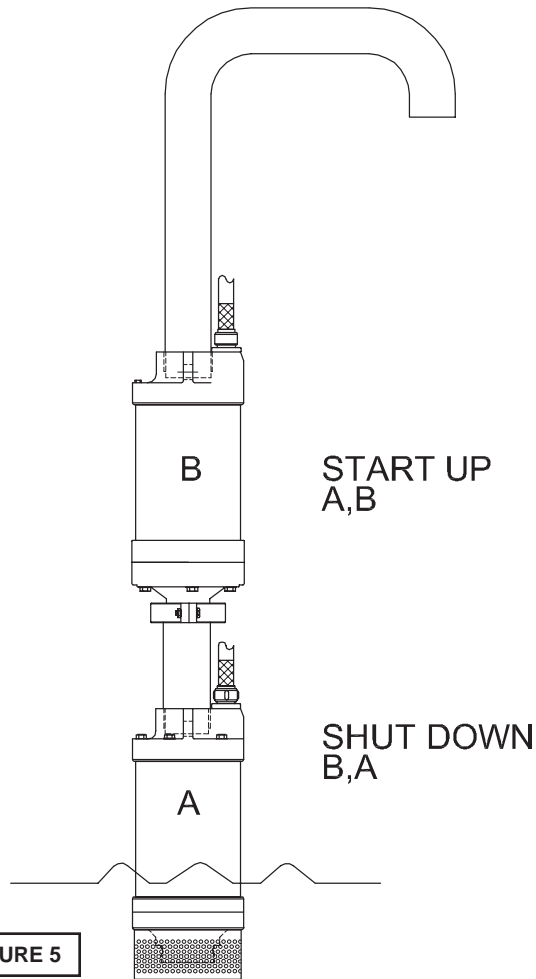

FIGURE 5
DO NOT attempt to start a frozen pump. Instead, submerge pump in water for twenty (20) minutes before starting. **DO NOT** attempt to thaw a frozen pump with a torch. Start pumps one at a time to avoid excessive current draw on power supply. When starting up pumps connected in series, turn on the bottom pump first, then the next to the bottom, etc (See Fig 5). When shutting down, turn off the top pump first and continue downward after allowing sufficient time for the water column to drain down to the next lower pump. This process reduces the chance of over-pressuring the lower seals when there are no system check valves or the units are spaced.